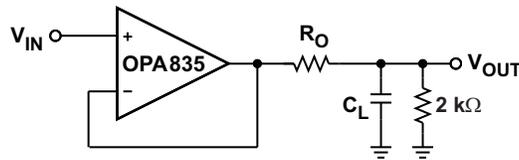
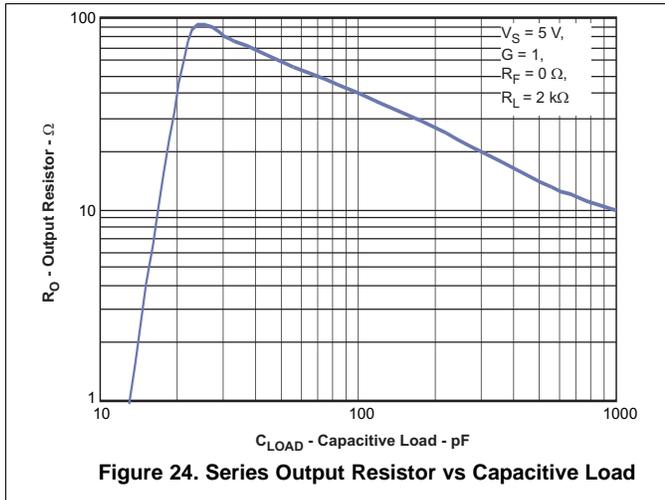
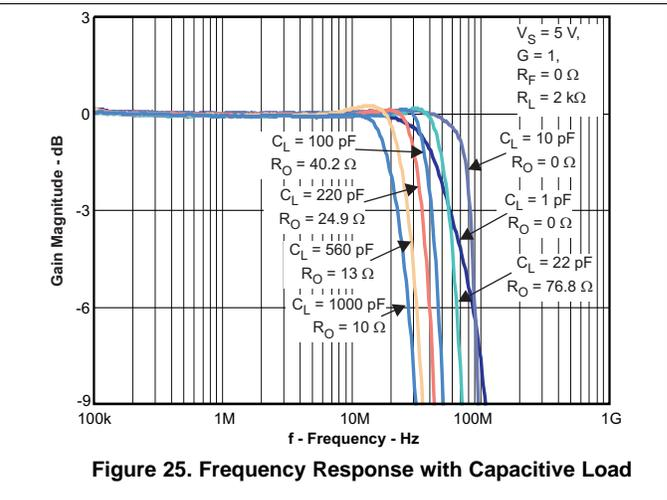

Figure 23. R_O versus C_L Test Circuit
Figure 24. Series Output Resistor vs Capacitive Load
Figure 25. Frequency Response with Capacitive Load
Figure 23 shows the test circuit and Figure 24 shows the recommended values of R_O versus capacitive loads, C_L . See Figure 25 for frequency response with various values.
4. A series output resistor is recommended to be placed as near to the output pin as possible. See "Series Output Resistor vs. Capacitive Load" (Figure 24) for recommended values given expected capacitive load of design.